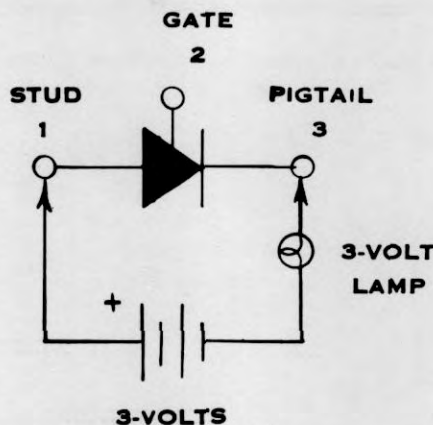

Figure 2
Connect the plus lead to the stud (1), connect negative lead to the pigtail (3) as shown in Figure 2 below.